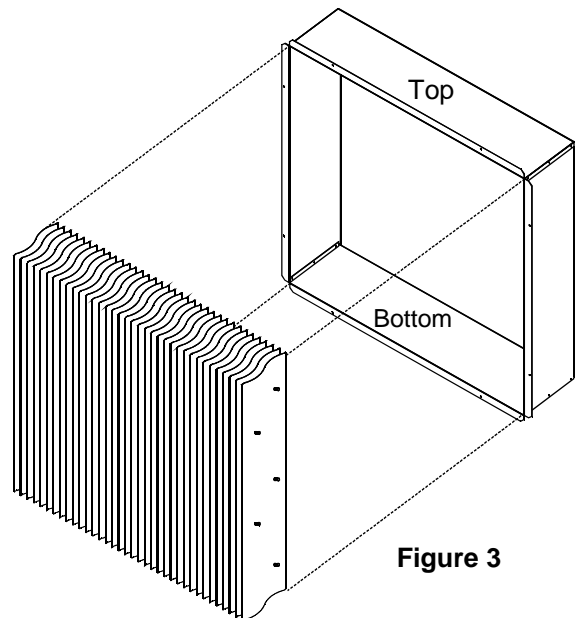

Figure 3
4. Assemble the Light Trap Extrusions which accompany this kit according to instructions which are included with the Light Trap Extrusions. Insert the assembled Light Trap Extrusions into the Air Inlet exactly as shown in **Figure 3**.